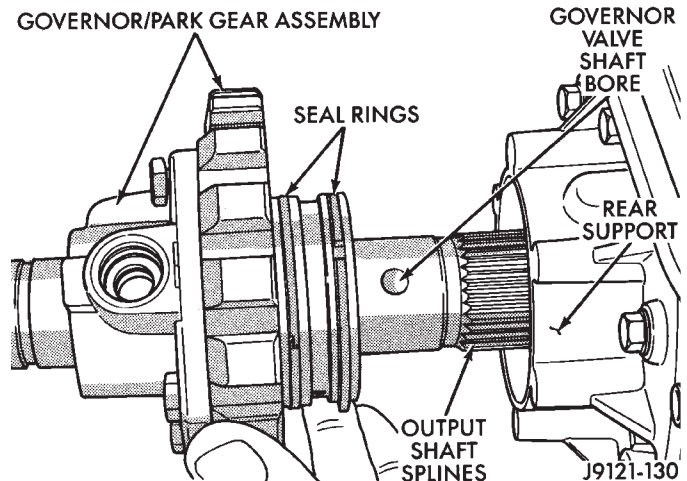

Fig. 33 Governor Body
(12) Remove bolts holding governor body to park gear (Fig. 33).
(13) Separate governor from park gear.
(14) Pull park gear from rear support.
(1) Install park gear into rear support so crown on curved boss is in line with hole through output shaft.
(2) Install governor filter in park gear.
(3) Slip governor body over output shaft and align port to filter.
(4) Install bolts to hold governor body to park gear. Tighten bolts to 11 N·m (95 in. lbs.) torque (Fig. 33).
(5) Install governor body-park gear snap rings and washer on output shaft as follows: